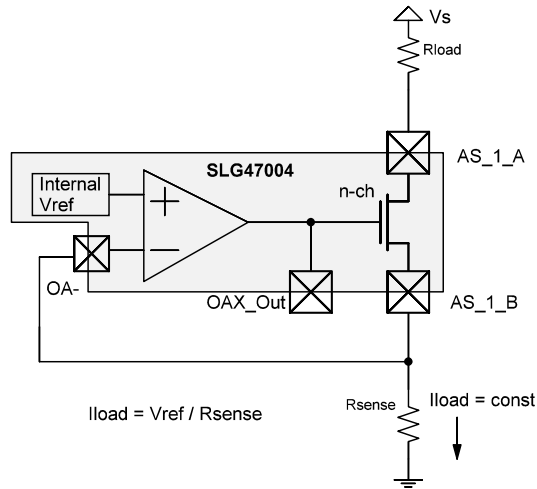

Figure 72: Constant Current Sink
Also, the op amp output can drive the N-FET (part of the Analog Switch) in order to implement a constant current sink. Note that FETs of Analog Switches have different resistances. Analog Switch 0 has  $R_{ds\_PMOS} \ll R_{ds\_NMOS}$ , while Analog Switch 1 has  $R_{ds\_NMOS} \ll R_{ds\_PMOS}$ . That's why it is recommended to implement current sink mode using Analog Switch 1. In this mode, the op amp output is LOW when the macrocell is turned off. Figure 72 (A) shows a typical implementation of this Current Sink Function. Note that op amp must operate in operational amplifier mode (register 750 = 0 for Op Amp0, register 751 = 0 for Op Amp1).